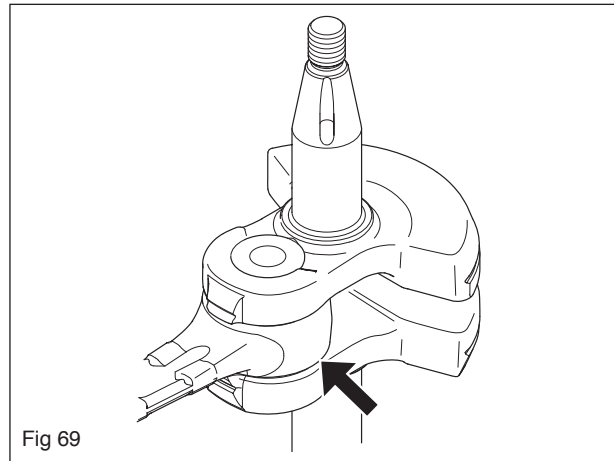

Fig 69
1. That the big-end bearing does not have any radial play. Axial play is permitted. See figs. 69 and 70.